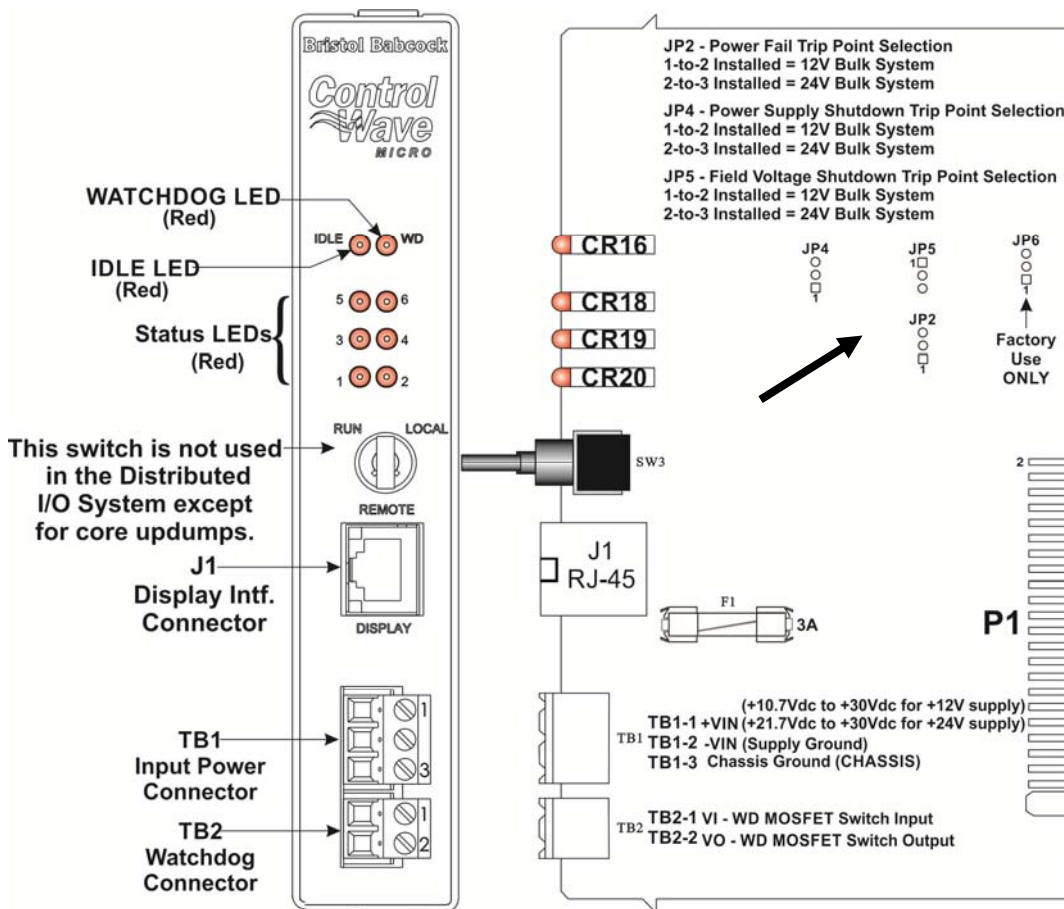
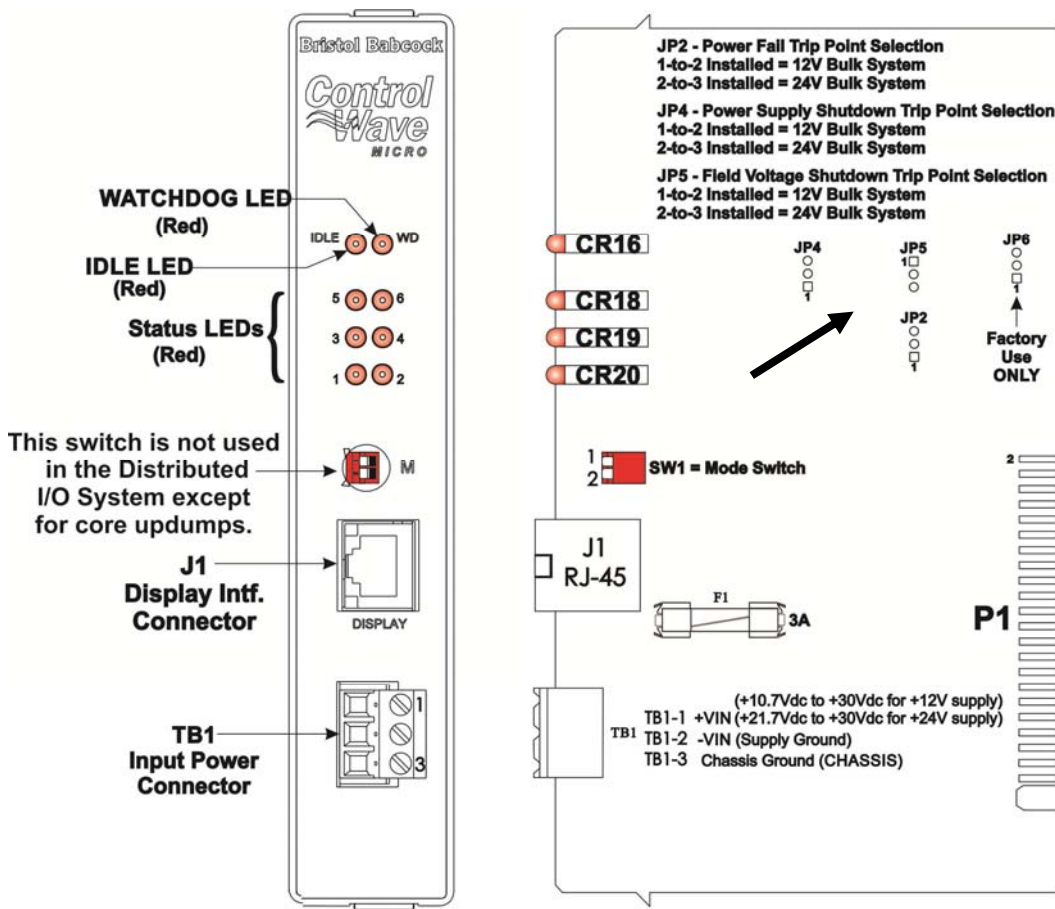

Figure 2-9. PSSM with Run/Remote/Local Switch, Display Interface, and Watchdog Connector
Figure 2-10. PSSM Module with Mode Switch, Display Interface, and without Watchdog Connector
- PSSM with Display Interface and Watchdog output (model 396657-01-0, Revision A and above) (see *Figure 2-9*)
- PSSM with Mode Switch SW1 & Display Interface (model 396657-02-8 without Watchdog output, Revision A and above) (see *Figure 2-10*)
Two terminal blocks (see Figure 2-9) provide external input power and watchdog connector switch connections. Two red LEDs on the PSSM's front panel enable you to monitor the status of the watchdog (WD) and Idle (IDLE) circuits.
The power supply operates from +10.7 to +30 Vdc or from +21.7 to +30 Vdc. You can configure the nominal input supply configuration (12V or 24V) using configuration jumper switches on the PSSM PCB. See *Figure 2-9* and *Figure 2-10*.
The PSSM has three jumpers which you set based on whether your bulk DC power supply will provide +12V or +24V. See *Figure 2-9* or *Figure 2-10* to locate the jumpers on your version of the PSSM.
The version of the PSSM shown in *Figure 2-9* includes an optional watchdog connector. The purpose of the watchdog connector is to trigger an external alarm or annunciator if the ControlWave Micro Distributed I/O System enters a “watchdog” condition in which the CPU cannot control your I/O.